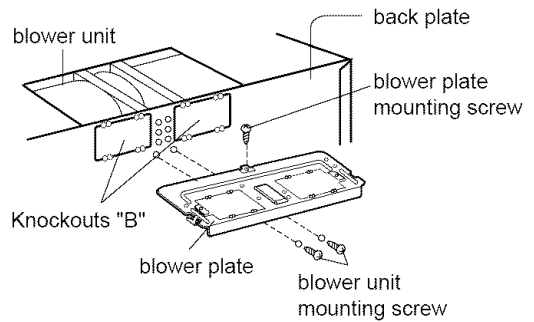

Figure 12
1. Remove two blower unit mounting screws and one blower plate screw. Remove the blower plate from cabinet. See **Figure 12**.